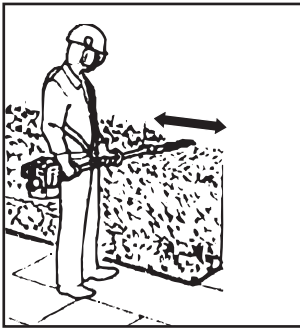

Fig. 15
11. Cut in a number of stages to achieve a better result rather than trying to cut in one go if the area being cut is particularly long (Fig. 15); smaller cuttings will allow for easy composting.